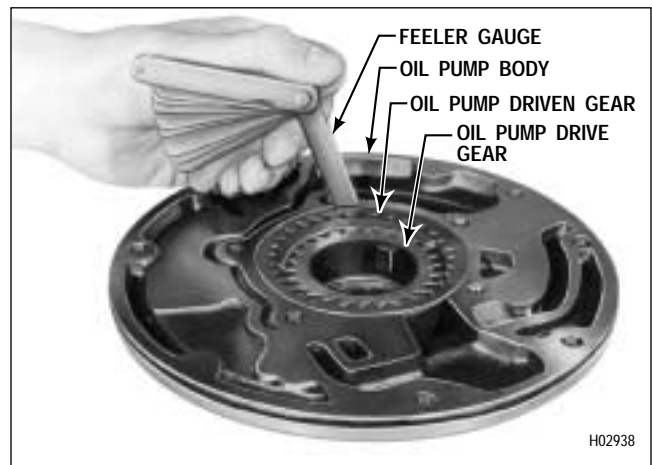

Figure 6-31. Checking Diametrical Clearance of Oil Pump Driven Gear
(5) Check the driven gear diametrical clearance with a feeler gauge as shown in Figure 6-31. Replace the gear if the clearance is not within 0.0055–0.0085 inch (0.14–0.22 mm) on a new gear or 0.0055–0.0089 inch (0.14–0.23 mm) on a used gear.